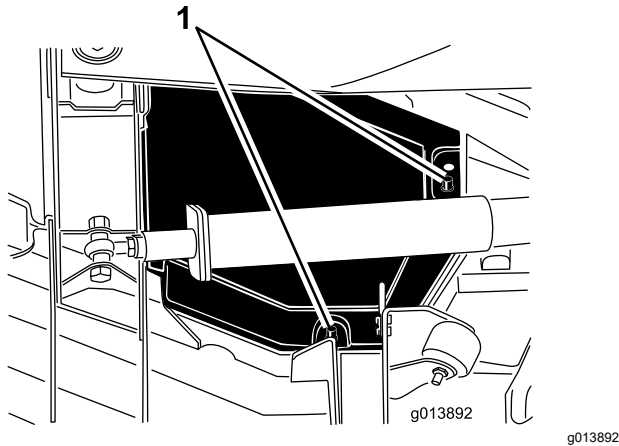

Figure 77
4. Lift the rear and inside cover edges off the mounting posts (Figure 77).